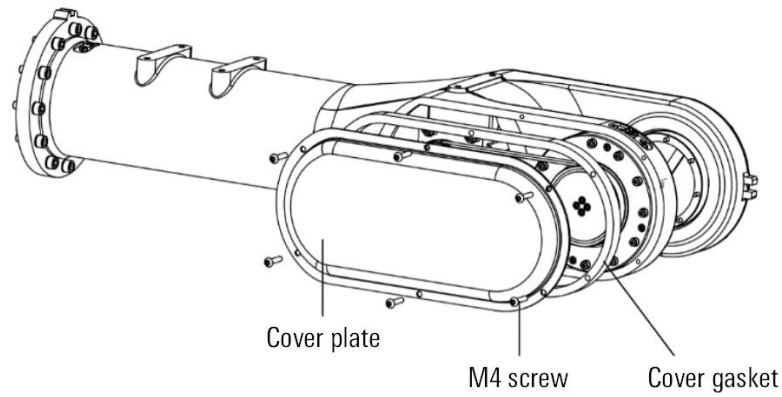

Figure 12-9 Removal of cover plate
- Step3. Remove the manipulator cover plate and four M4 screws, as shown in Figure 12-9.